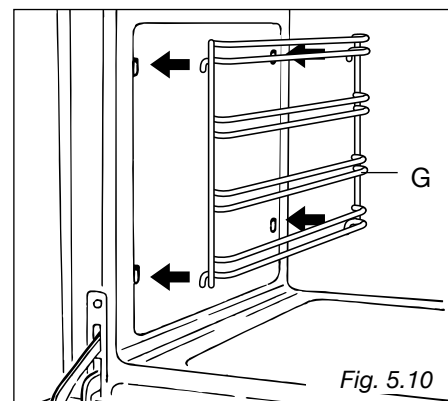

Fig. 5.10
- Hang up the wire racks “G” on the oven walls (fig. 5.10).